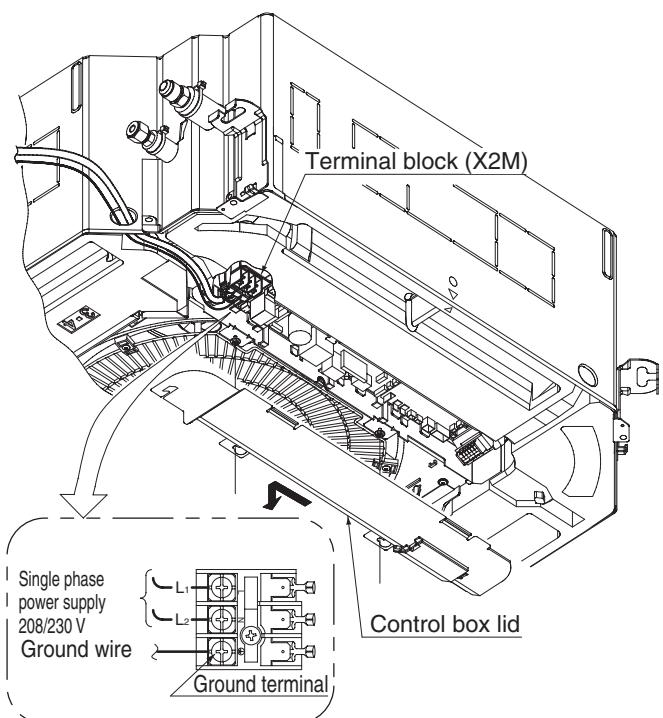

**Fig. 20**
- After checking the drainage of water, refer to **Fig. 20** and attach the sealing material (14) to perform the thermal insulation of the drain socket.
After checking the drainage of water, refer to **Fig. 20** and attach the sealing material (14) to perform the thermal insulation of the drain socket.
**(3) Sweating may occur and result in water leakage. Therefore, make sure to insulate the indoor drain piping and socket locations.**
After drainage is checked, put the attached sealing material (14) referring to **Fig. 20**, and insulate the drain hose (1) and the metal clamp (2) with the attached sealing material (Large) (10) referring to **Fig. 22**.